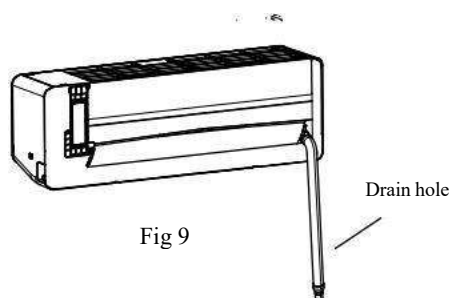

Fig 9
2. Connecting left back tube (similar to left lower tube). (optional, Refer to Fig9)
Right chart is available for the position of drain hose,refer to Fig 9.